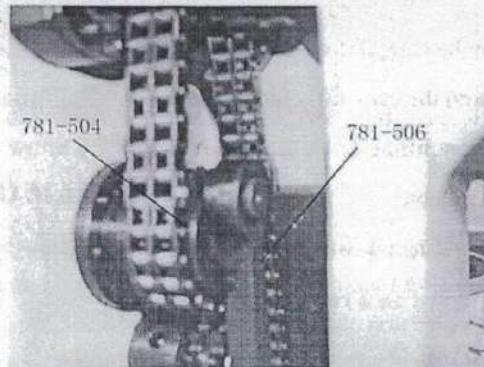

Fig.14
4.3 Adjustment setting of shuttle's swinging (Fig.14)